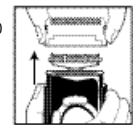

Fig. 1
- Remove head assembly by first pressing the two side buttons. (fig.1)